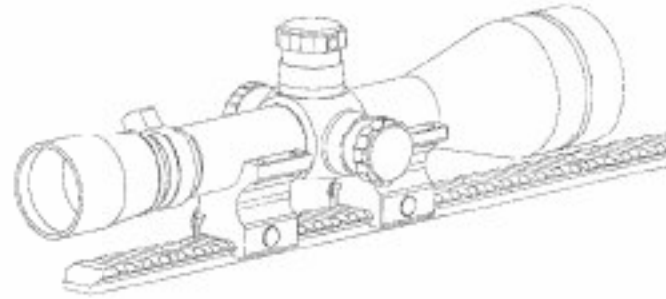

Figure 2-4
5. Place the scope in the bottom half of the rings. Remove the scope's elevation turret cover if the scope is so equipped. Lightly grasp the scope's elevation knob and rotate it until the knob itself is at the highest point in its adjustment travel. Figure 2-4.